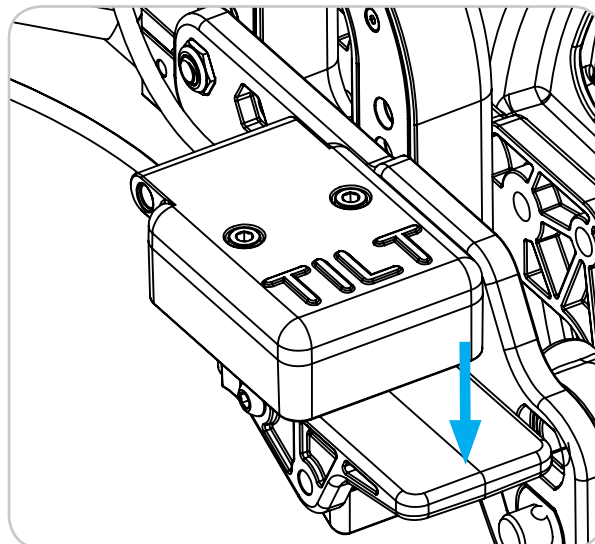

Figure 5
3. Press down on pedal. Reference Figure 5.